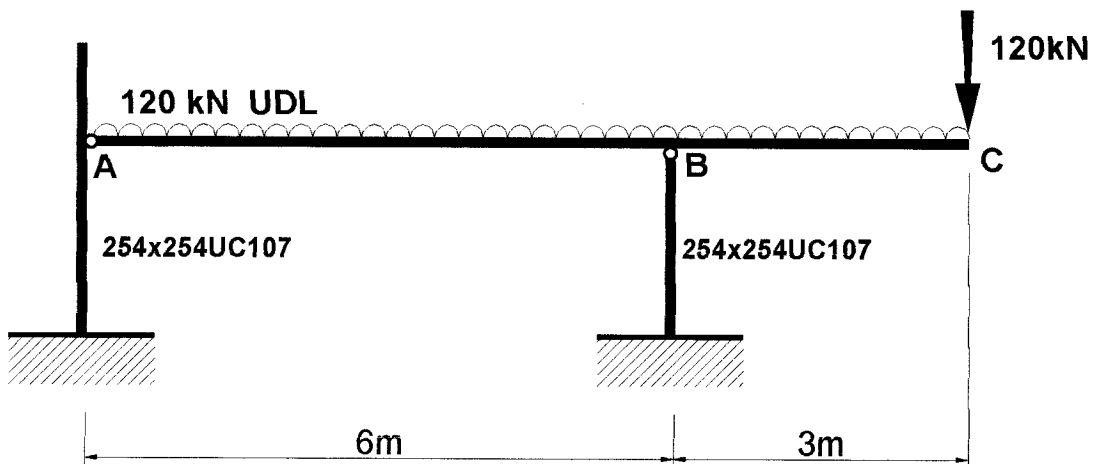

Figure Q2
2. Figure Q2 shows a simply-supported rolled I-beam, fully restrained laterally along its length and subject to the factored loading shown.